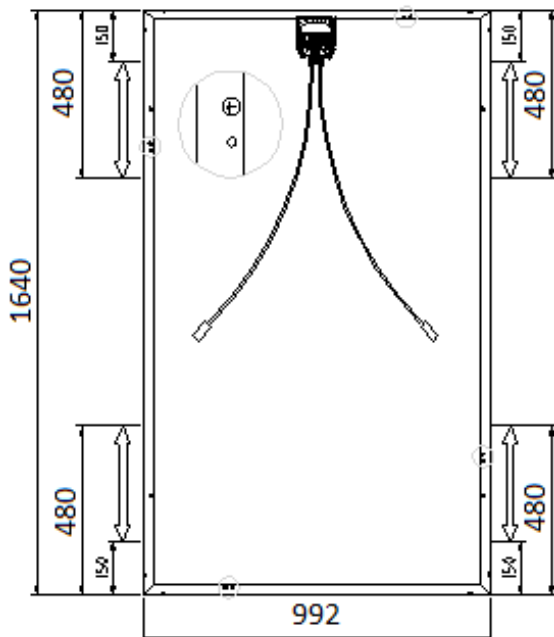

Figure 3. Dimensions of the module.
- A minimum of four module clamps should be used, two on each long frame side, in the general clamping areas denoted by the wide arrows on the drawing (Figure 3).